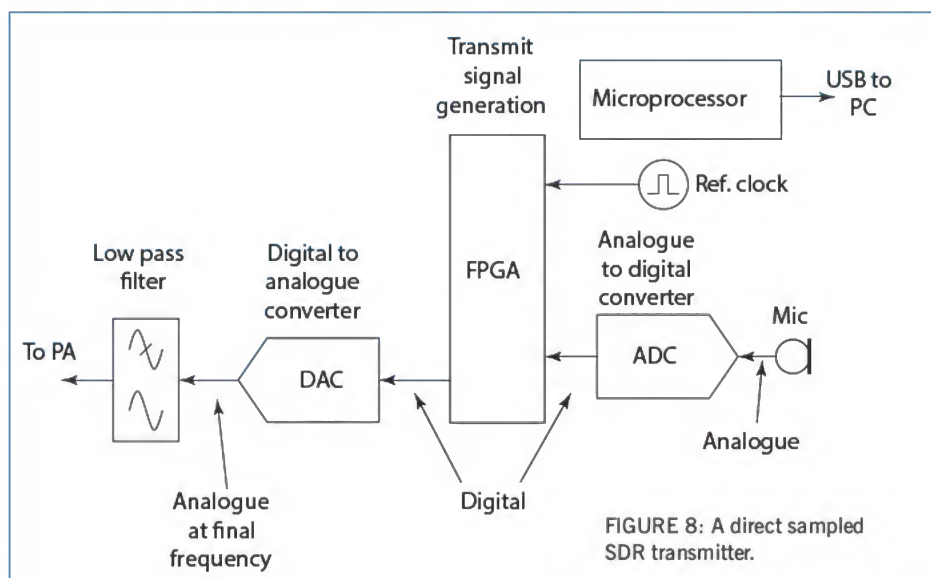

FIGURE 8: A direct sampled SDR transmitter.
**SDR TRANSMITTERS.** The generation of an SDR transmit signal is surprisingly straightforward, as shown in Figure 8. In a top-end direct digital synthesis system, the microphone signal is first digitised and then subjected to digital filtering and processing to shape the audio. This signal is then up-sampled to the required transmit frequency in the FPGA and passed to a high speed digital to analogue converter (DAC). This produces the RF signal that is then amplified and filtered using conventional analogue techniques. One of the newer features that's being built into the top end systems is pre-distortion. Efficient high power PAs suffer from a variety of amplitude and phase distortions that result in unwanted output. In a pre-distortion system, the digital transmit waveform is modified to follow the inverse of the PA distortion characteristics, which has the effect of reducing the unwanted output.